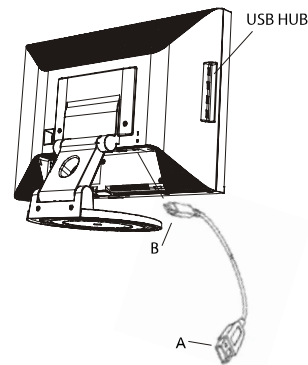

Figure 1-5
3. Connect USB compliant products directly to the USB hub on the monitor. ( See Fig 1-5)